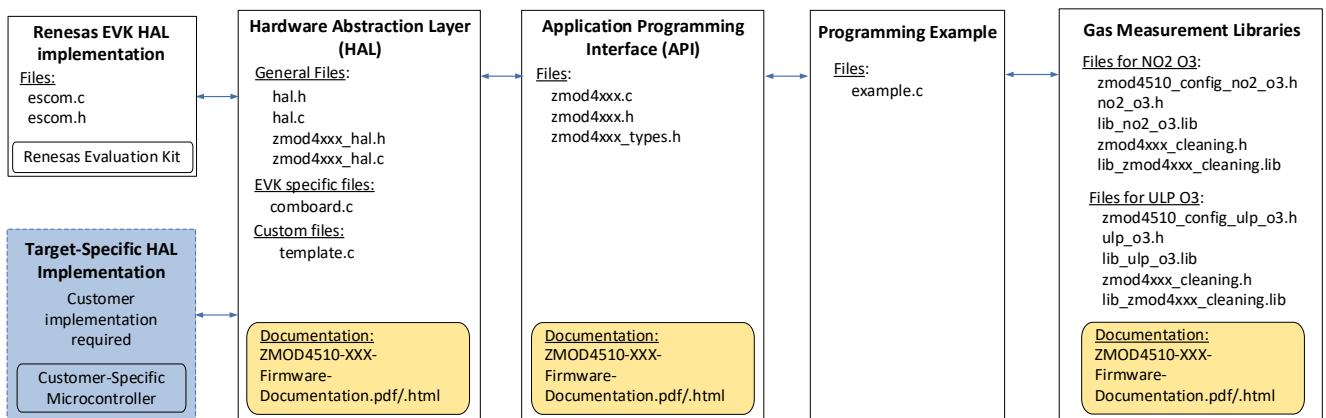

Figure 1. File Overview for ZMOD4510 Firmware
| Figure 1. File Overview for ZMOD4510 Firmware..... | 5 |
To operate the ZMOD4510 and use its full functionality, the following five code blocks are required (see Figure 1):
1. The “Target Specific I²C and Low-Level Functions” block is the hardware-specific implementation of the I²C interface. This block contains read and write functions to communicate with the ZMOD4510 and a delay function. For the use with Renesas EVKs, there are implementations for ESCOM and HiCom boards provided with the ZMOD4510 firmware packages. Using the user’s own target hardware requires implementing the user’s target-specific I²C and low-level functions (this is highlighted in light blue in Figure 1).
To set up a firmware for an Arduino target, Renesas provides the above-mentioned EVK example also as an Arduino example. This example is a high-level Arduino library and has a similar structure as shown in Figure 1 but with a HAL dedicated for Arduino, an Arduino-compatible structure, and Arduino-specific files. An Arduino IDE with version 2.0.0 or higher is needed.
To set up firmware for a Raspberry Pi based target, Renesas provides the above-mentioned EVK examples also as a Raspberry Pi examples. These examples have a similar structure as shown in Figure 1 but with a HAL dedicated for Raspberry Pi and a Makefile to easily compile the code. The example is based on the pigpio library and Raspberry Pi OS (previously called Raspbian).